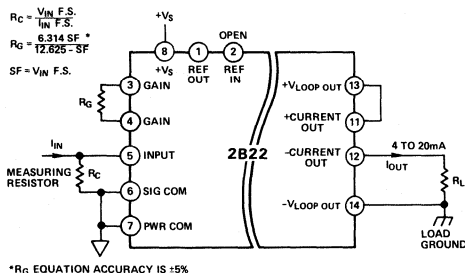

Figure 7. Process Signal Current Isolator
**Process Signal Isolator:** In process control applications, model 2B22 can be applied to interface standard process signals (e.g. 1 to 5mA, 4 to 20mA, 10 to 50mA, 1 to 5V) and convert them to isolated 4 to 20mA output. A typical hook-up of model 2B22 is illustrated in Figure 7, showing input resistor